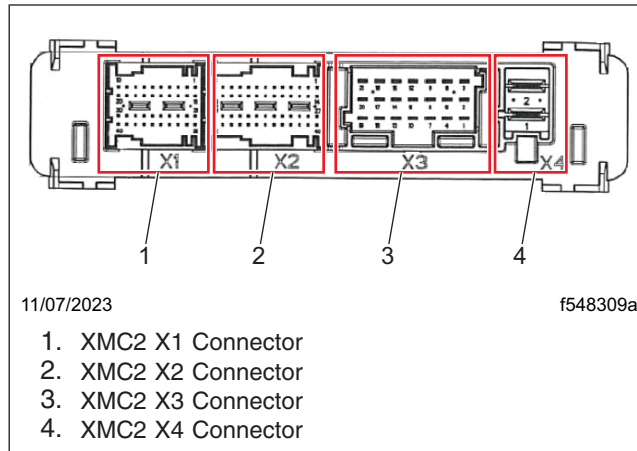

Fig. 39, XMC2 Connector Identification
13. Use a small flat screwdriver to gently push the lock in so the latch can rotate, and disconnect the X1 connector from XMC2. Rotate the latch all the way to the left-hand side and gently pull the X1 connector out. See Fig. 39, Fig. 40, and Fig. 41.
15. Remove the X3 connector from XMC2 by squeezing the locking tab upwards while pulling the connector from the XMC. See Fig. 39 \(previous page\) and Fig. 44.